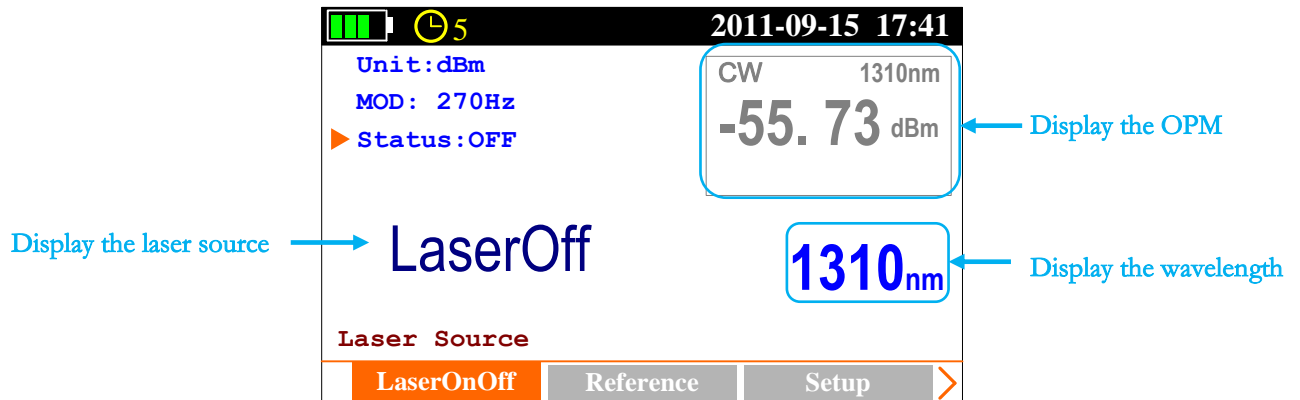

Figure 3.4
Press  and  to the following interface, see Figure 3.4.
- Press and to [LaserOnOff] sub-interface, see Figure 3.4;